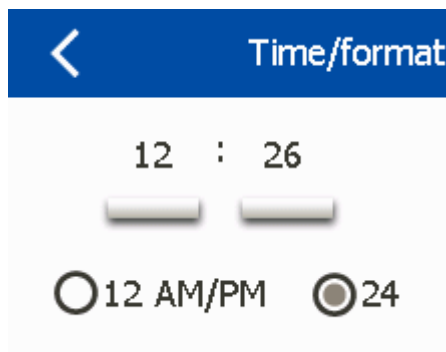

Fig. 78: Setting the time
The 'Time/format' screen (Fig. 78) allows you to set the current time and select a time format. You can choose between 12-hour clock and 24-hour clock.
- ⇒ The 'Time/format' screen (Fig. 78) displays.